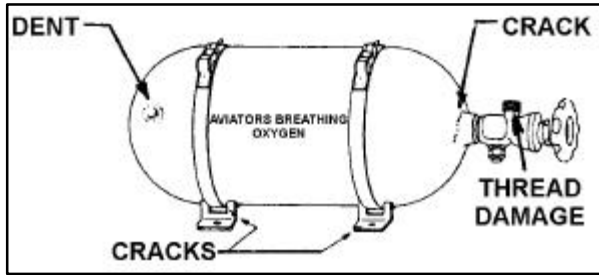

FIGURE 9-14. Oxygen cylinder damage.
(1) Remove from service any cylinders that show signs of abuse, dents, bulges, cracks, distortion, damaged threads, or defects which might render them unsafe. Typical examples of oxygen cylinder damage are shown in figure 9-14.
(2) When replacing an oxygen cylinder, be certain that the replacement cylinder is of the same size and weight as the one removed.